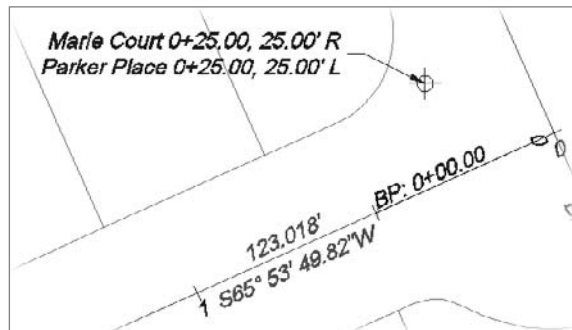

Figure 8.23
9. Drag the label to a more suitable location as shown in Figure 8.23, and then click Close on the Add labels dialog to dismiss it.